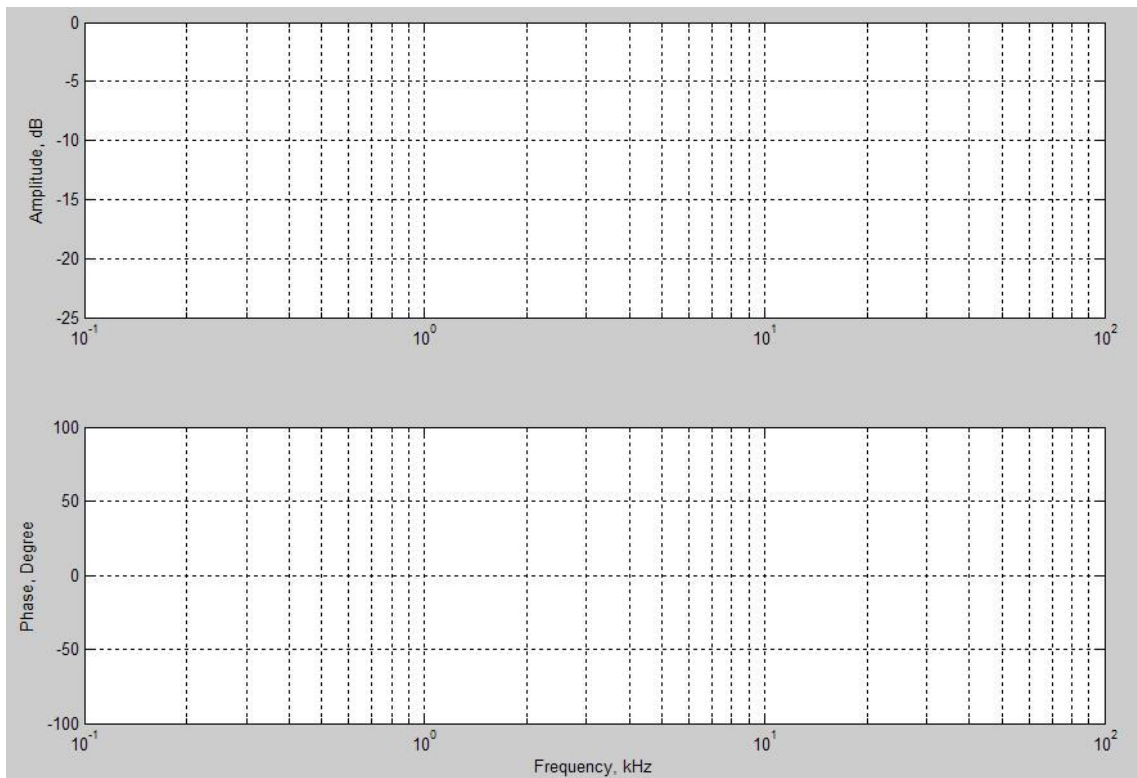

Fig. D.1: Frequency response of the passive bandpass filter.
3. Redo as in steps 3 – 7 of Part A, but record all the values in Table B.1, plot the data of Table D.1 in Fig. D.1, and find the cutoff frequency for the high-pass stage (ω_1 , f_1) and the low-pass stage (ω_2 , f_2) as well as the bandwidth in Table D.2.